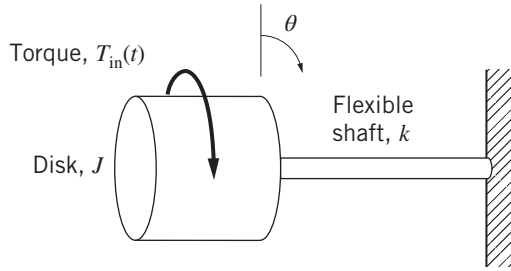

Figure P8.17
- 8.17** Figure P8.17 shows a simple 1-DOF, frictionless, rotational mechanical system. The disk moment of inertia is $J = 0.2 \text{ kg-m}^2$ and the torsional spring constant for the shaft is $k = 100 \text{ N-m/rad}$. Angular displacement θ is zero when the shaft is untwisted. The disk is initially at rest (equilibrium) when the sinusoidal input torque $T_{\text{in}}(t) = 0.5 \sin 3t \text{ N-m}$ is applied.